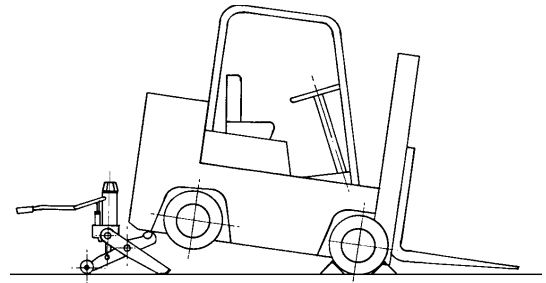

Figure 5
1. Position the jack at the center of the fork lift truck. See Figure 5.